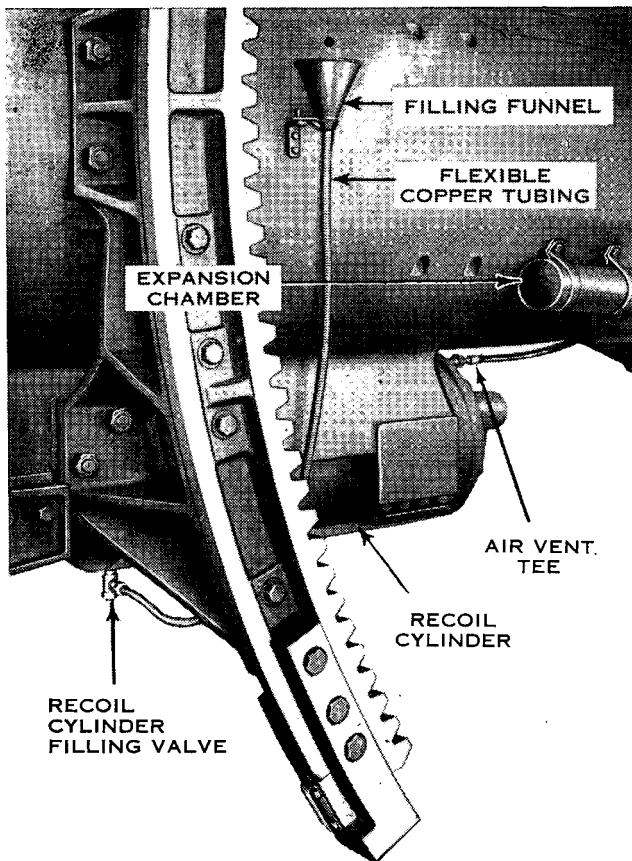

Figure 21. Recoil cylinder filling device.
- (1) Set the gun at 0° elevation.
- (2) Remove the cap from the filling connection directly under the expansion tank and attach the filling funnel.
- (3) Remove the vent plugs from the top of the rear end of the upper and lower recoil cylinders.
- (4) Slowly pour the recoil liquid into the funnel until it runs out of the vents in the top of the rear end of each cylinder.
- (5) Close the vents with the vent plugs and replace the cap on the filling connection.
- (6) Change the filling funnel to the other side of the carriage and fill the two remaining recoil cylinders. The capacity of each long recoil cylinder is 35 gallons and of each short recoil cylinder 17 gallons.
c. To check and fill the recoil cylinder on the M1919M1, M2, M3, M4, and M5 carriages. To check the liquid in the recoil cylinder of the M1919-M1, M2, M3, M4, or M5 carriages (fig. 21), remove the plug cap from the tee in the expansion